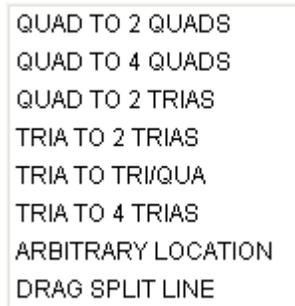

Figure 5.3.24 Shell Split Options
- Click the arrow next to SHELL SPLIT OPTION to access the drop-down menu of options as illustrated in Figure 5.3.24.